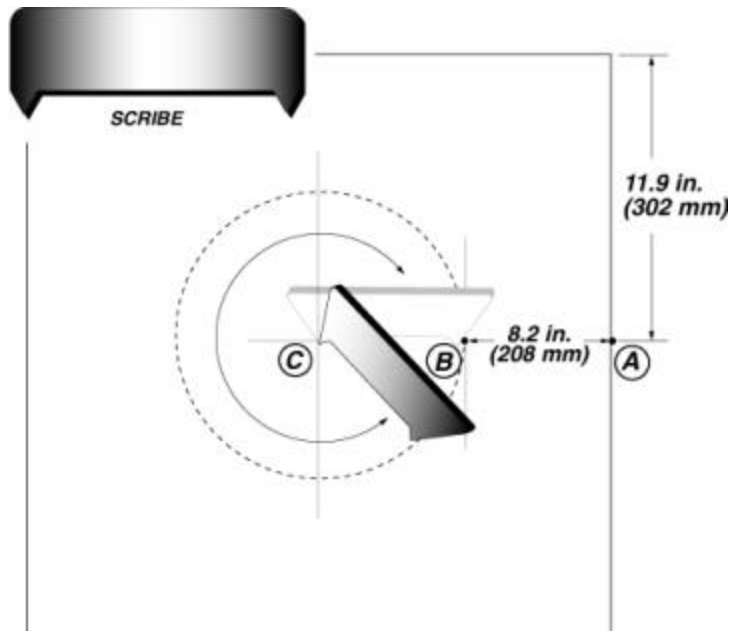

Figure 2
2. Measure and make a small mark at position **A** from any corner (11.9 in./302 mm). Refer to Figure 2.